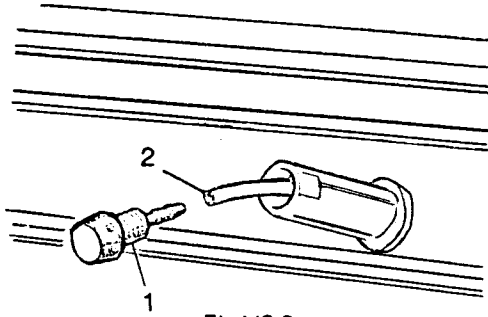

Fig V3.2
- (1) Refer to Fig V3.2. Unscrew the washer jet (1).
- (2) Withdraw the jet and washer tube from the jet holder.
- (3) Detach the jet from the washer tube (2).